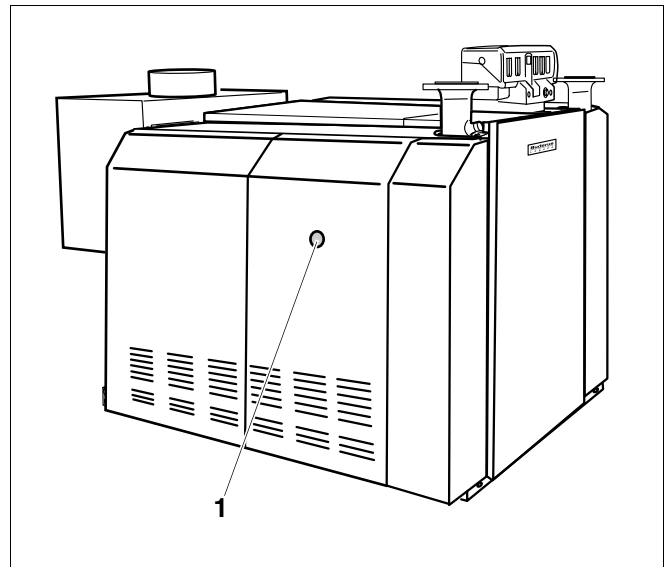

Fig. 29 Reset button
In case of burner fault, a fault lamp (Fig. 29, **Item 1**) lights up at the boiler.
You can activate the burner reset button through an aperture (Fig. 29, **Item 1**) in the side panel. The side panel does not need to be removed.
- Press the boiler reset button (Fig. 29, **Item 1**).